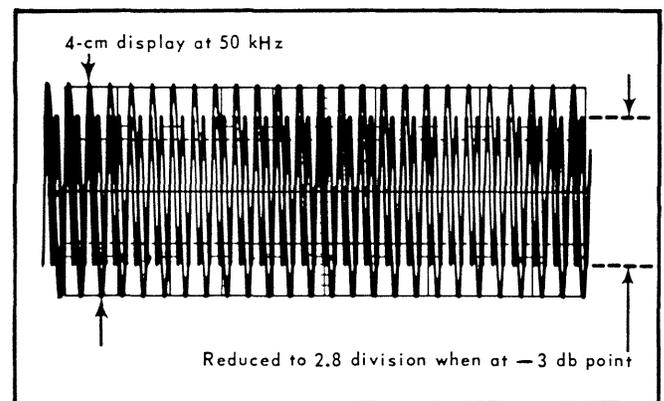

Fig. 5-9. Double exposure showing both amplitude levels when measuring amplifier frequency response.
g. Check—Amplitude of the display must equal or exceed 2.8 cm (-3 dB point). See Fig. 5-9.